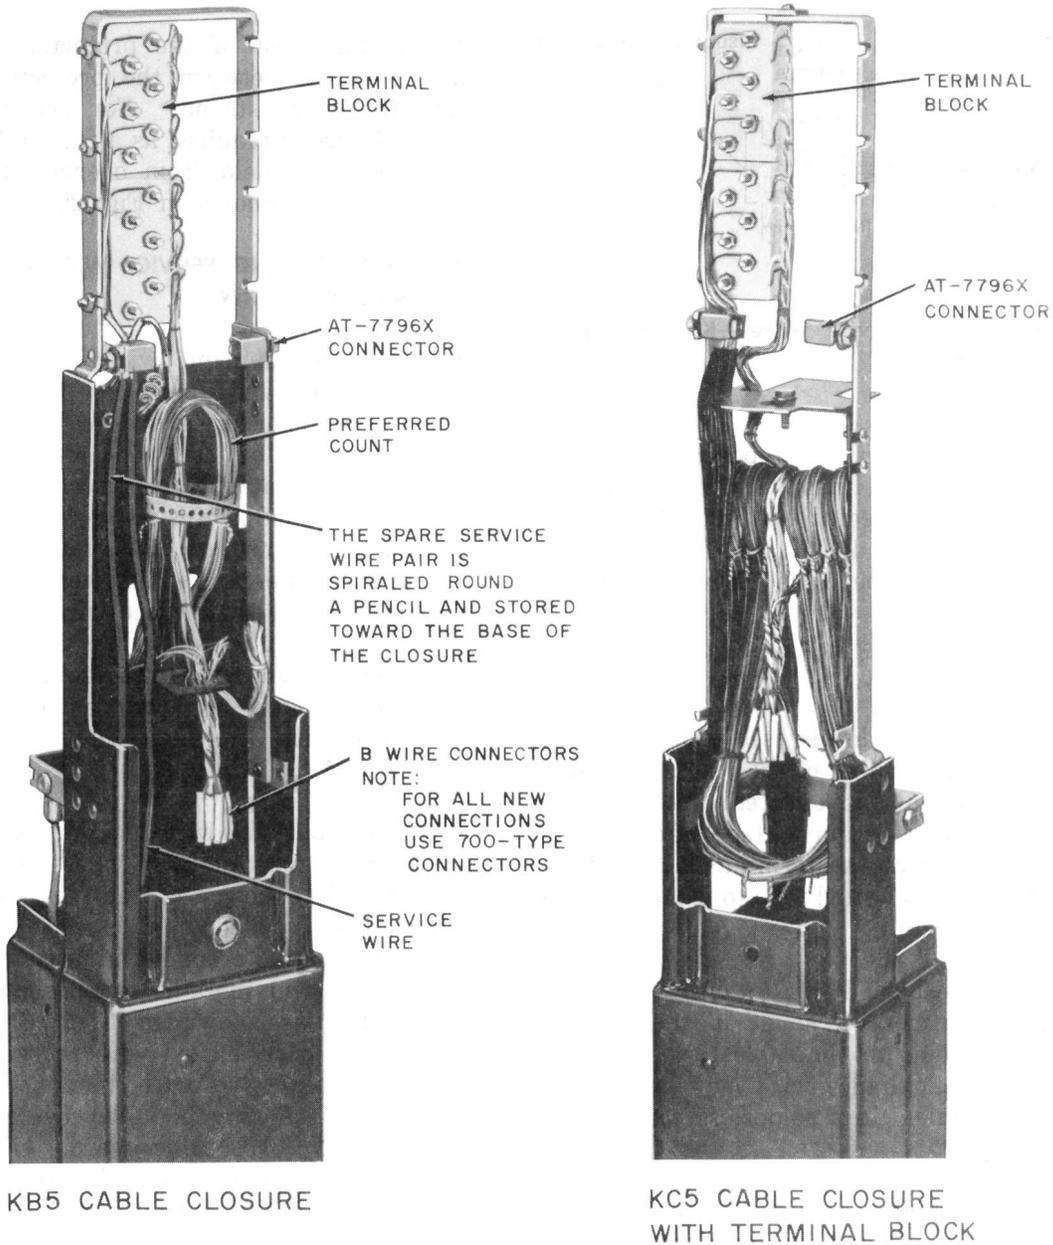

Fig. 18—Service Wire Installed—K Type Cable Closure (Protected)
5.11 Terminate service wire in K cable closure as shown in Fig. 18.